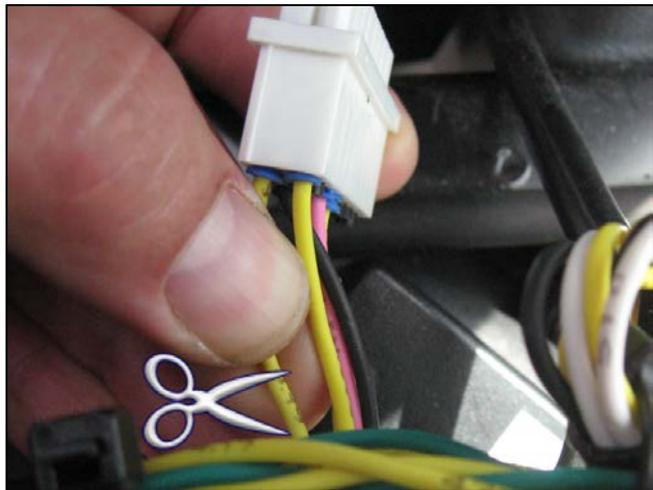

Figure 11
- C3. Locate wire **439** at **pin 1** of Gateway Module A139. (Fig 11)
- C4. Cut about two inches away from connector. (Fig 11)